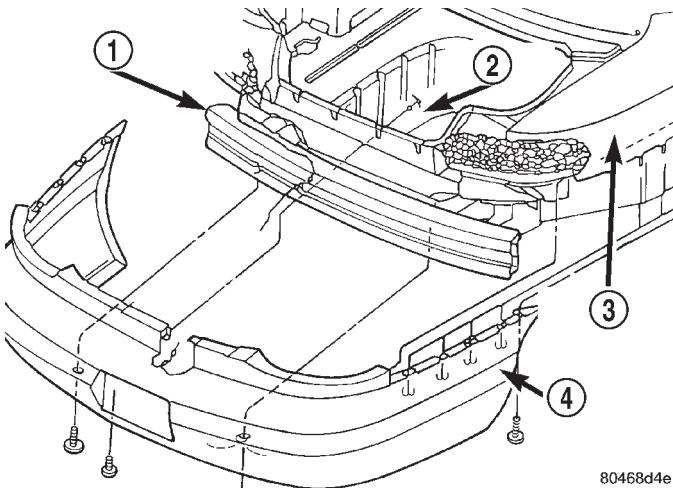

Fig. 4 Rear Bumper Fascia
- (1) Release decklid latch and open decklid.
- (2) Remove trunk lining as necessary to access nut attaching rear fascia to rear closure panel.
- (3) Remove screws attaching fascia to rear closure panel and nuts securing to inner quarter panel (Fig. 4).
- (4) Hoist and support vehicle on safety stands. Refer to Group 0, Lubrication and Maintenance, for proper procedure.
- (5) Remove push-in fasteners attaching bottom of fascia to rear bumper reinforcement.
- (6) Disengage license plate lamp wire connector.
- (7) Remove rear wheelhouse splash shields as necessary to access nuts attaching fascia to quarter panels.
- (8) Remove nuts attaching rear fascia to quarter panels.
- (9) Remove screw attaching fascia to right rear quarter panel.
- (10) Slide fascia rearward and remove from vehicle.